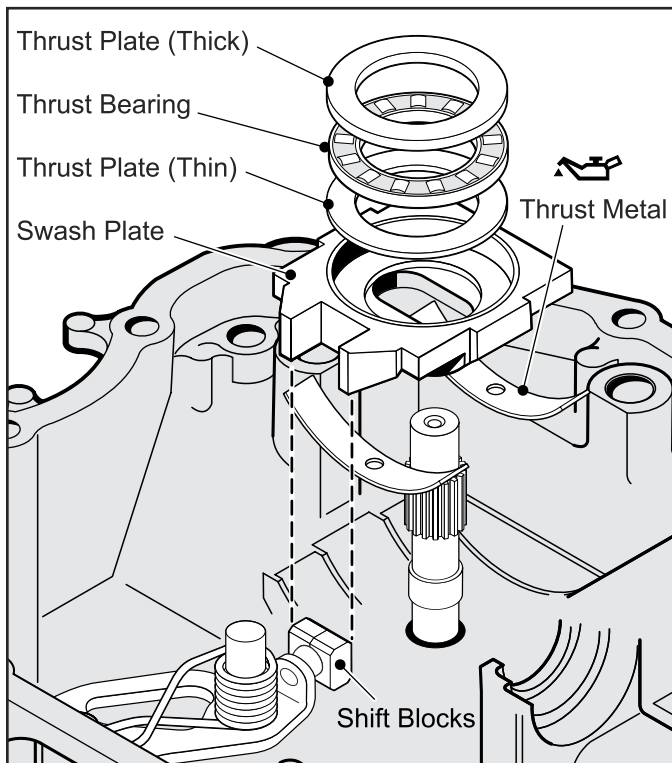

Fig. 20, Pump Shaft Assembly
1. Install Thrust Metals into the Upper Case (forming a cradle for the Swash Plate). (Fig. 20)
- ◆ Comprising of (2) Thrust Plates and (1) Thrust Bearing, the Thrust Bearing Group should be oiled and placed into the Swash Plate. Starting with the “thin” Thrust Plate followed by the Thrust Bearing and, finally; the “thick” Thrust Plate. (Fig. 20)
3. If not previously done, apply an ample amount of grease to the inside surface of the Shift Blocks and to the pivot ball; then, press the Shift Blocks to the pivot ball. The grease will help retain the Shift Blocks in position during installation and alignment of the Swash Plate Assembly. See “Control Shaft and Fulcrum Assembly” step 4 on page 21. (Fig. 20)
5. Place the Swash Plate Assembly over the Pump Shaft; then, into cradle, align with Shift Blocks. (Fig. 20)